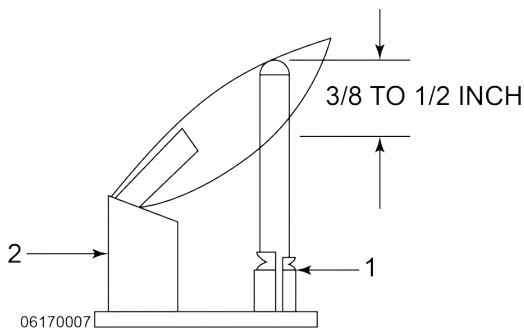

Figure 2-10 Pilot & Thermocouple Assembly
- 3) Install the new thermocouple, being careful not to create sharp bends in the tubing. When the pilot (2) is lit, the flame must surround the top of the thermocouple, see Figure 2-10 *Pilot & Thermocouple Assembly*, page 32.